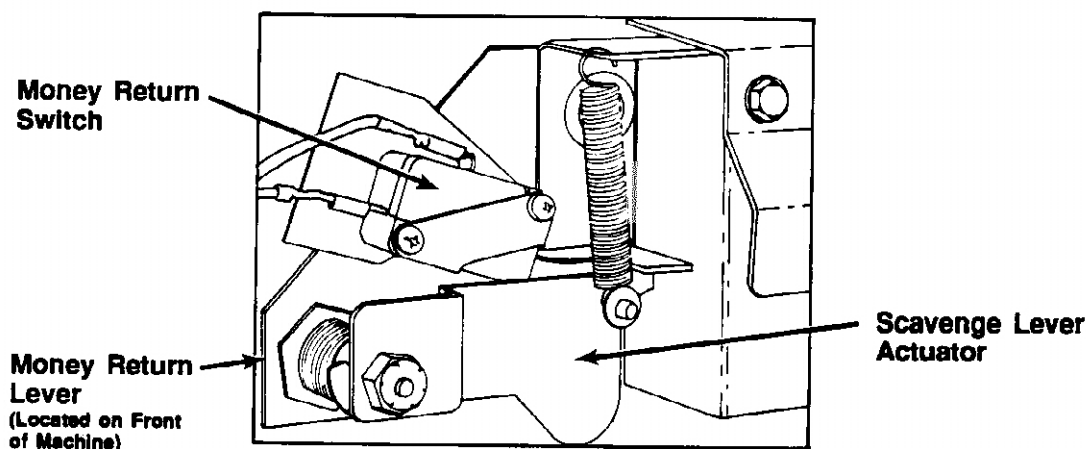

Figure 1-7. BC-1200 Bill Return Switch
When the MONEY RETURN lever on the BC-1200 (see *Figure 1-7*) or the MONEY RETURN switch on the BC-1400 is depressed, a switch closes and sends a signal to the CCC. The coin lockout coil in the (optional) coin acceptor is released and the transport motor rotates in the reverse direction. If the switch is held (ON) for more than 10 seconds, the transport will turn OFF automatically to prevent excess wear and overheating. If it is held ON longer than 10 seconds, the message CHK BILL RETRN will be displayed, and the switch will be ignored until the FUNCTION button is pressed.